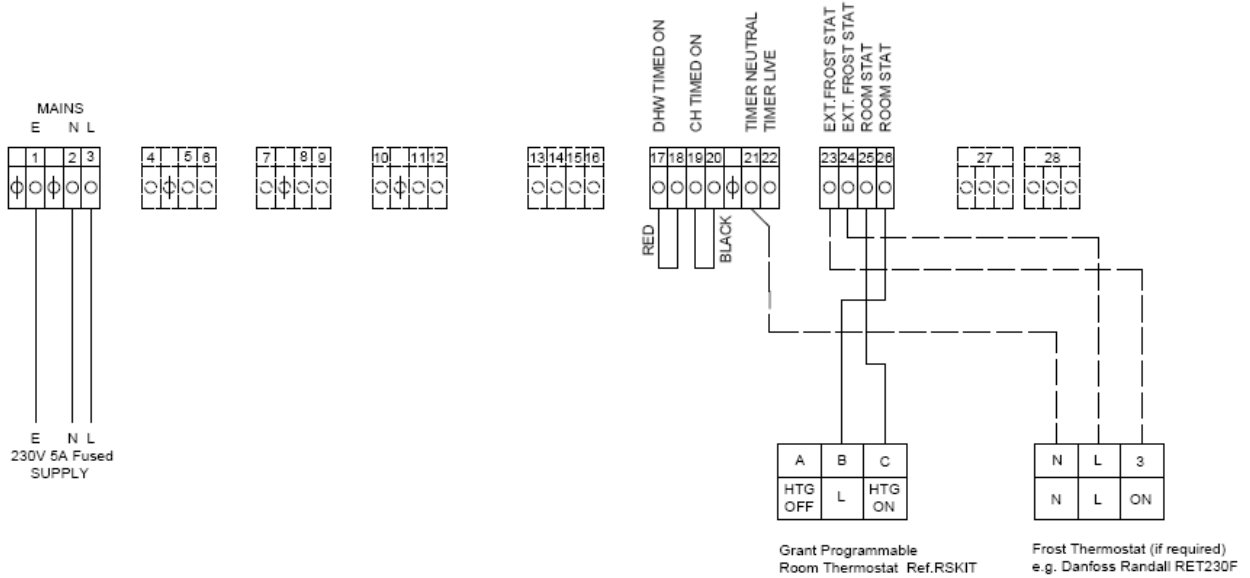

Fig.4. Connection for Grant Programmable Room Thermostat (RSKIT)
- 2 Refer to Fig.4 for the thermostat connection details. NB. Full installation and User instructions are provided with the Grant Programmable Room thermostat.
- 1 Connect the wires from the frost thermostat to terminals 23 & 24 on the connection block. Refer to Figs.4, 5 & 6 for further details.